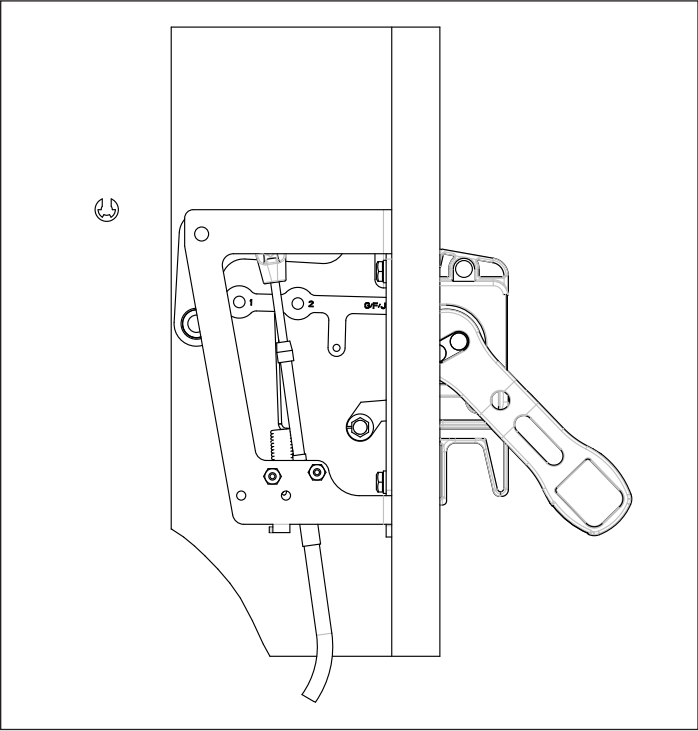

Figure 7. Assembly of adapter link to bell crank.
7. Rotate the bell crank towards the handle and rotate the outer handle to the "On" position. Align the actuator link, hole that is marked "1", and attach it to the bell crank and secure it using an E-Ring (see Figure 7).